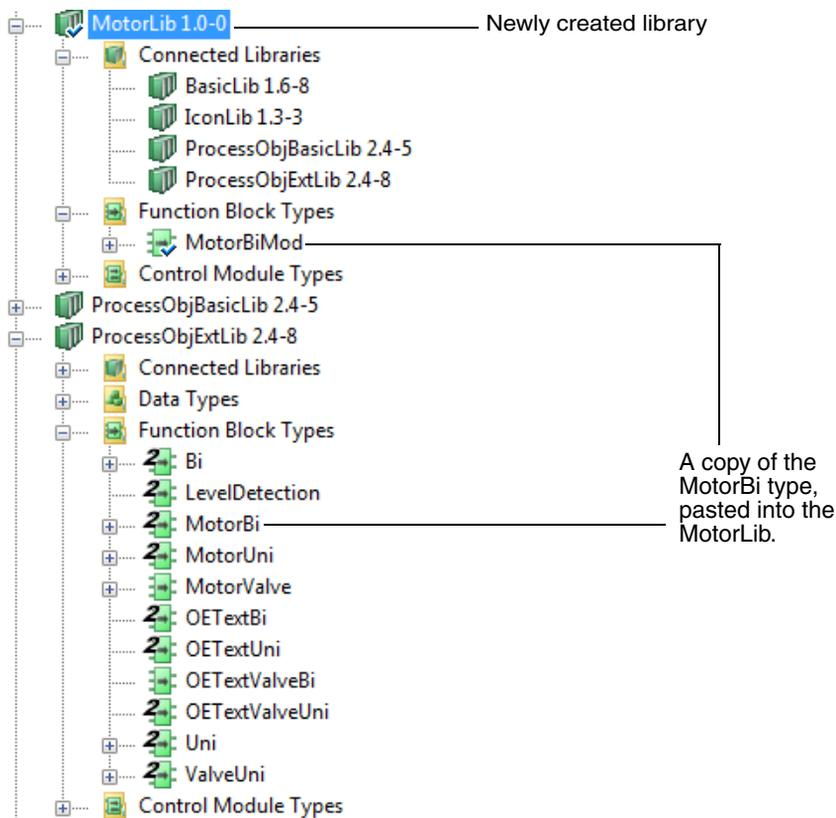

Figure 169. Copying of object types to a new library, MotorLib
12. Select the control module type that is to be replaced, under the process object type, in your own created library (MotorLib), in this example, FaceplateMotorBiMod under MotorBiMod. See Figure 169.